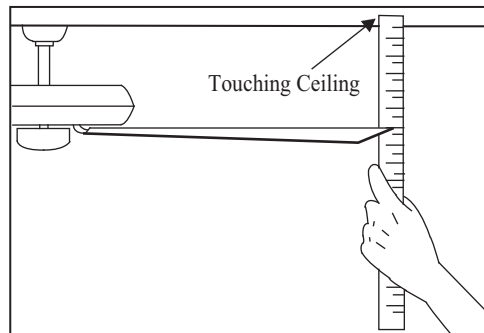

Figure 6
2. Most fan wobble problems are caused when blade levels are unequal. Check this level by selecting a point on the ceiling above the tip of one of the blades. Measure from a point on the center of each blade to the point on the ceiling. Measure this distance as shown in Figure 6. Rotate the fan until the next blade is positioned for measurement. Repeat for each blade. Measurements deviation should be within 1/8". Run the fan for 10 Minutes.